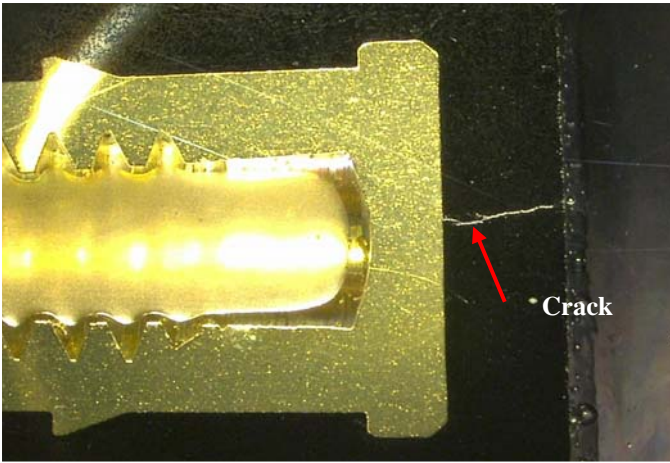

Figure 2: Cross-section of cracking near metallic insert.
The ordered arrangement of the molecular structure associated with crystallinity results in melting when a sufficient temperature is reached. Because of this, semi-crystalline polymers, such as polyethylene, polyacetal, and nylon, will undergo a distinct melting transition, and have a melting point ( $T_m$ ). Amorphous polymers, including polystyrene, polycarbonate, and poly(phenyl sulfone), will not truly melt, but will soften as they are heated above their glass transition temperature ( $T_g$ ). This is represented by the differential scanning calorimetry thermograms included in Figure 2.
Figure 2: Differential scanning calorimetry thermogram showing a melting transition of a semi-crystalline polymer and a glass transition for an amorphous polymer.
- Metallic inserts (Figure 2)
- Internal cracking (Figure 2)